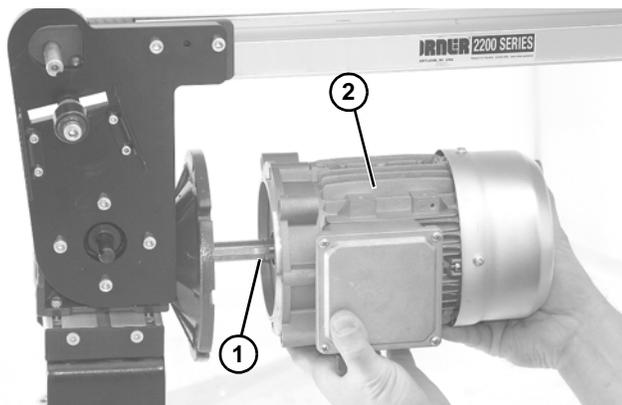

Figure 39
5. Apply anti-seize to motor shaft before assembling to gearbox. With key (**Figure 39, item 1**) in keyway, slide motor (**Figure 39, item 2**) and gear reducer together. Install screws and tighten.